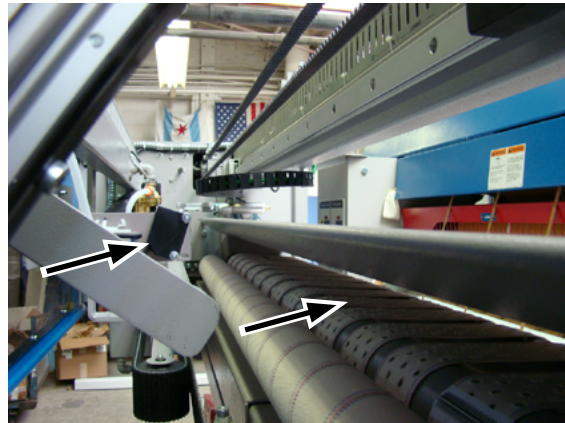

Figure 7-26: Taut photosensor aiming.
5. Loosen the bracket mounting screws (Figure 7-26).